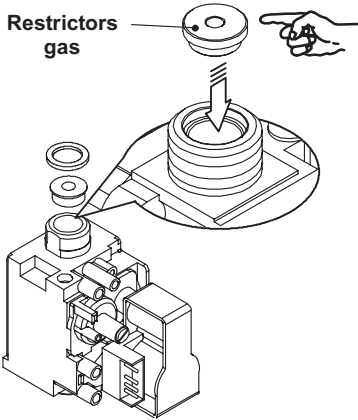

Fig. 8.4
- Carry out the conversion for the type of gas, replacing the restrictors gas correctly (Fig. 8.4).